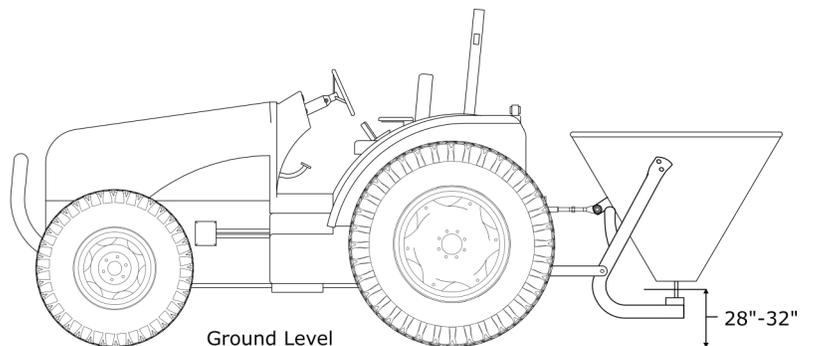

Fig. 1
4. Adjust the height of the spreader to approximately 28"-30" from the bottom of the spreader disc to ground level, (See Fig. 1).